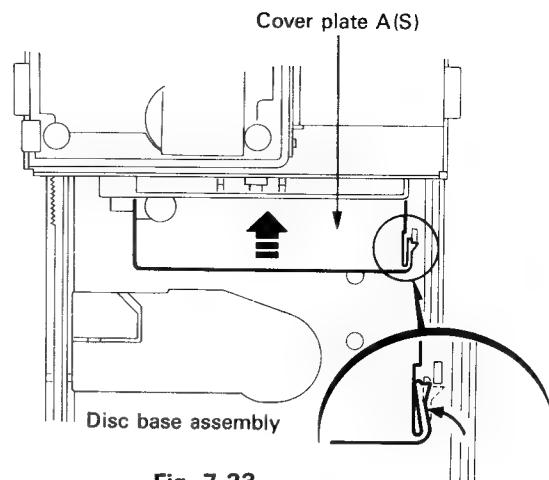
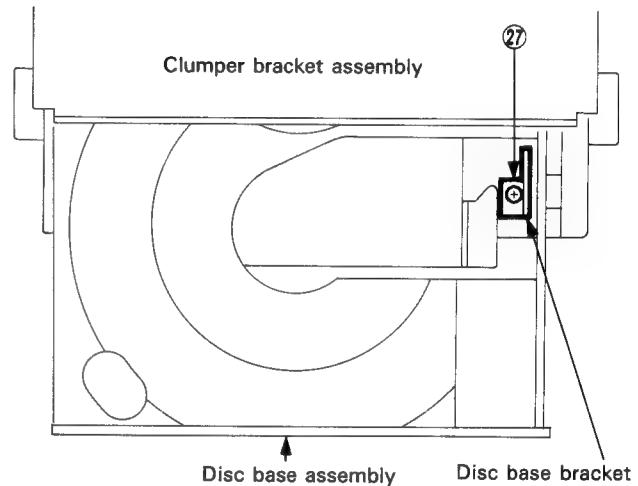

Fig. 7-23
Fig. 7-24
(Refer to Figs. 7-23 and 24)
3. After turning over the CD changer mechanism assembly, turn the gear G4 manually in the direction of arrow as shown in Fig. 7-23, and raise the CD mechanism assembly.
5. After turning over the CD changer mechanism assembly, move the point **C** engaging the cover plate A (S) and disc base assembly in the direction of arrow and disengage the above plate and assembly.
6. After turning the CD changer mechanism assembly back to the normal position, remove the one screw **27** retaining the disc base bracket visible from notched window of the disc base assembly (Refer to Fig. 7-24).